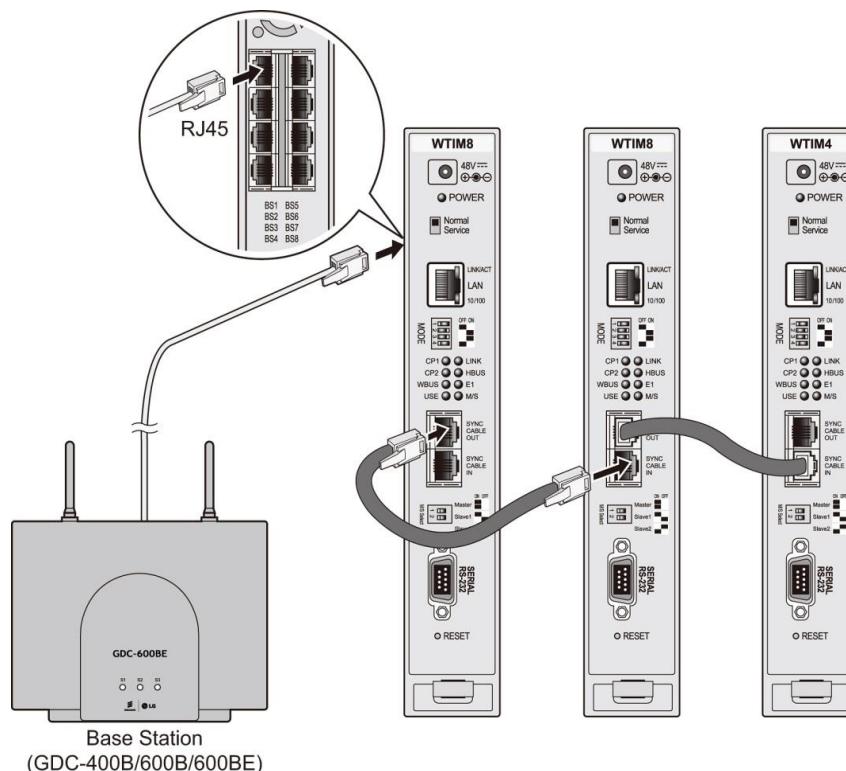

Figure 6.16-1 Cascading connections of WTIM4/8
When multiple WTIMs are installed and handover between Base Stations (GDC-600BEs) is required, the WTIMs must be interconnected. Up to three (3) WTIMs may be interconnected to allow handover between the connected Base Stations. Wiring for this connection is shown in Figure 6.16-1 below. The WTIM interconnection is a separate connection not provided by the back panel, thus, even when the WTIMs are installed in a cabinet the interconnection of the WTIMs is required.
- Wire “Sync Cable Out” directly to the “Sync Cable In” of the next WTIM as shown in Figure 6.16-1 below.